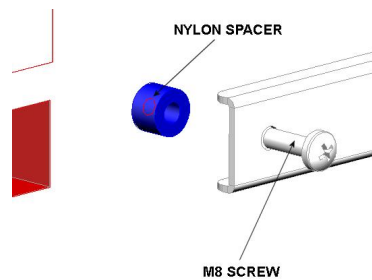
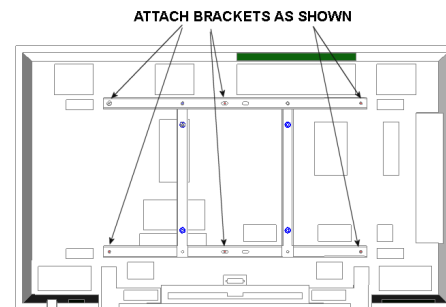

Figure 5
Figure 6
3. Place four or six Nylon spacers over the mounting holes on the back of the screen and attach the brackets using the appropriate M8 screws for your screen (see Figure 5 & Figure 6). After the brackets are tightened in place, fully tighten the 5/16-18 x 1/2" BHCS's to the uprights.